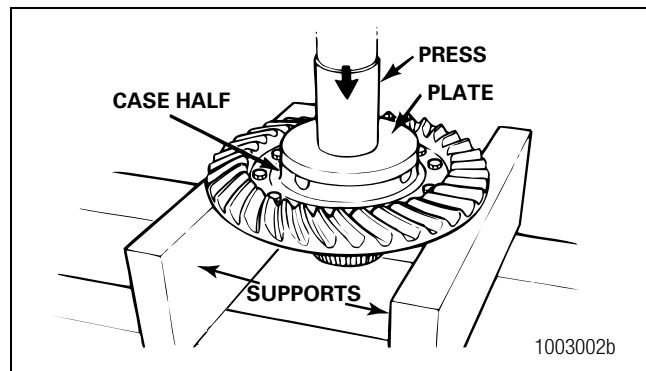

Figure 3.20
- Use a press to separate the case half and ring gear. Support the assembly under the ring gear with metal or wood blocks. Press the case half through the gear. Figure 3.20.